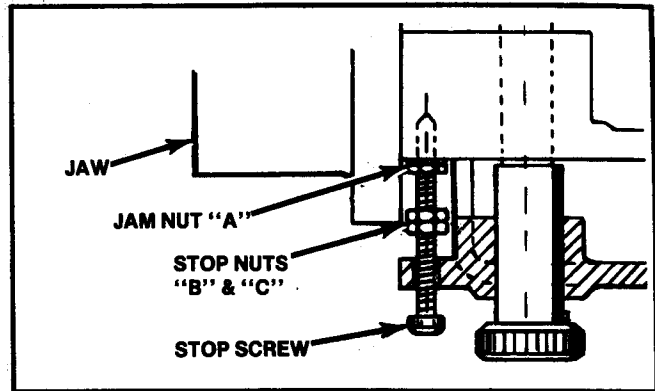

FIG. 13. JAW STOP ADJUSTMENT.
- (1) Run the welder through several simulated weld cycles with no material in the jaws.
- (2) Gap between jaws should be 1/32-inch at the end of a weld cycle. If not, adjust the moveable jaw stop screw by loosening jam nut "A" and turning the screw in or out as required. Tighten jam nut "A". See Fig. 13.